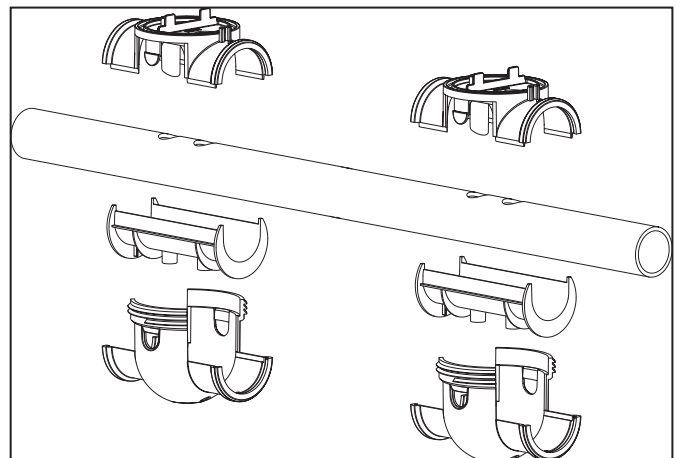
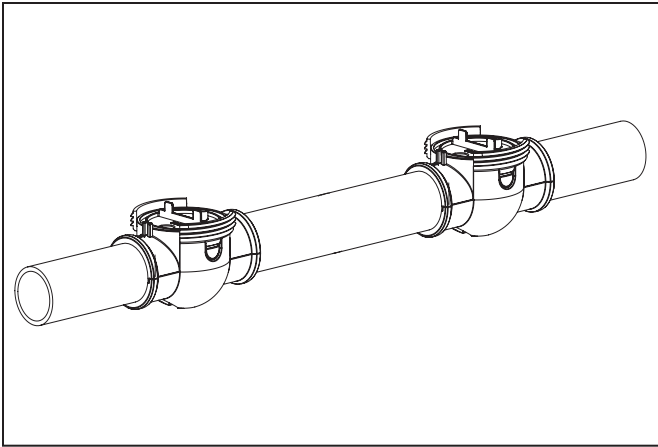

Figure 9. Cell Clamps
Figure 10. Cell Clamps Attached
10. Secure the clamps, pipe spacer, and gasket around the pipe as shown (see Figure 9) making sure the flow arrows on the clamp point in the direction of the water flow (see Figures 10 and 11). Make sure the two (2) clips on the sides of the clamp are snapped into place.